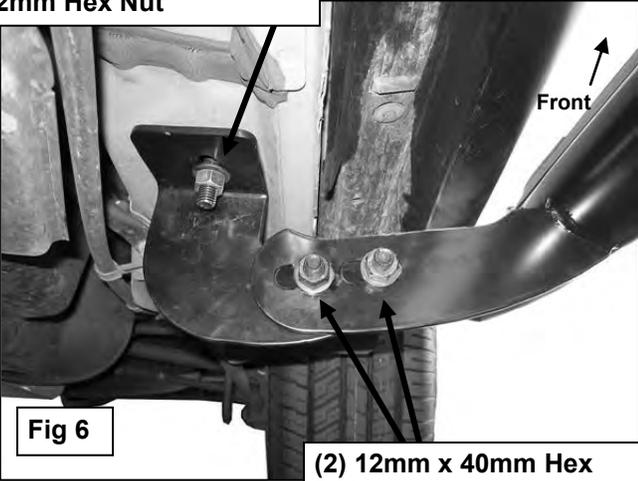

Fig 6
8. Partially hang the driver side Rear Mounting Bracket from the previously inserted 12mm Bolt Plate using the included (1) 12mm Flat Washer, (1) 12mm Lock Washer and (1) 12mm Hex Nut, **(Figure 6)**. Do not tighten at this time.